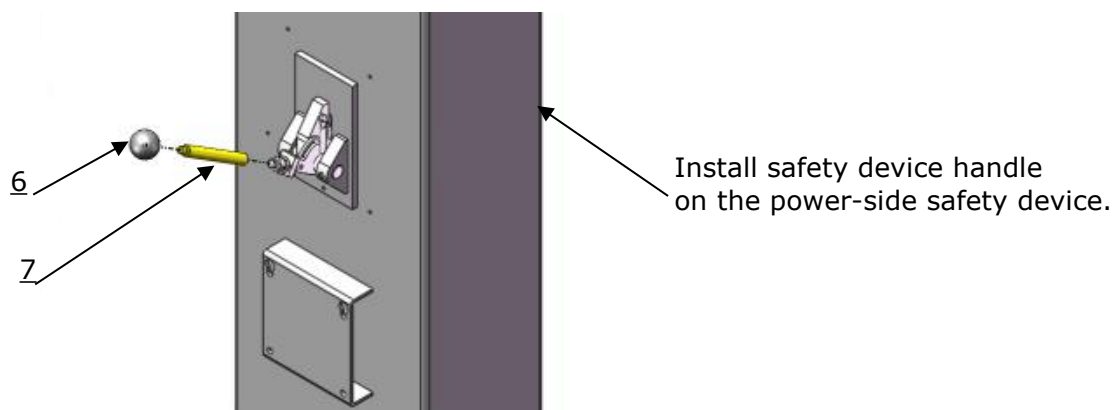

Fig. 27
J. Install safety device handle (See Fig. 27)